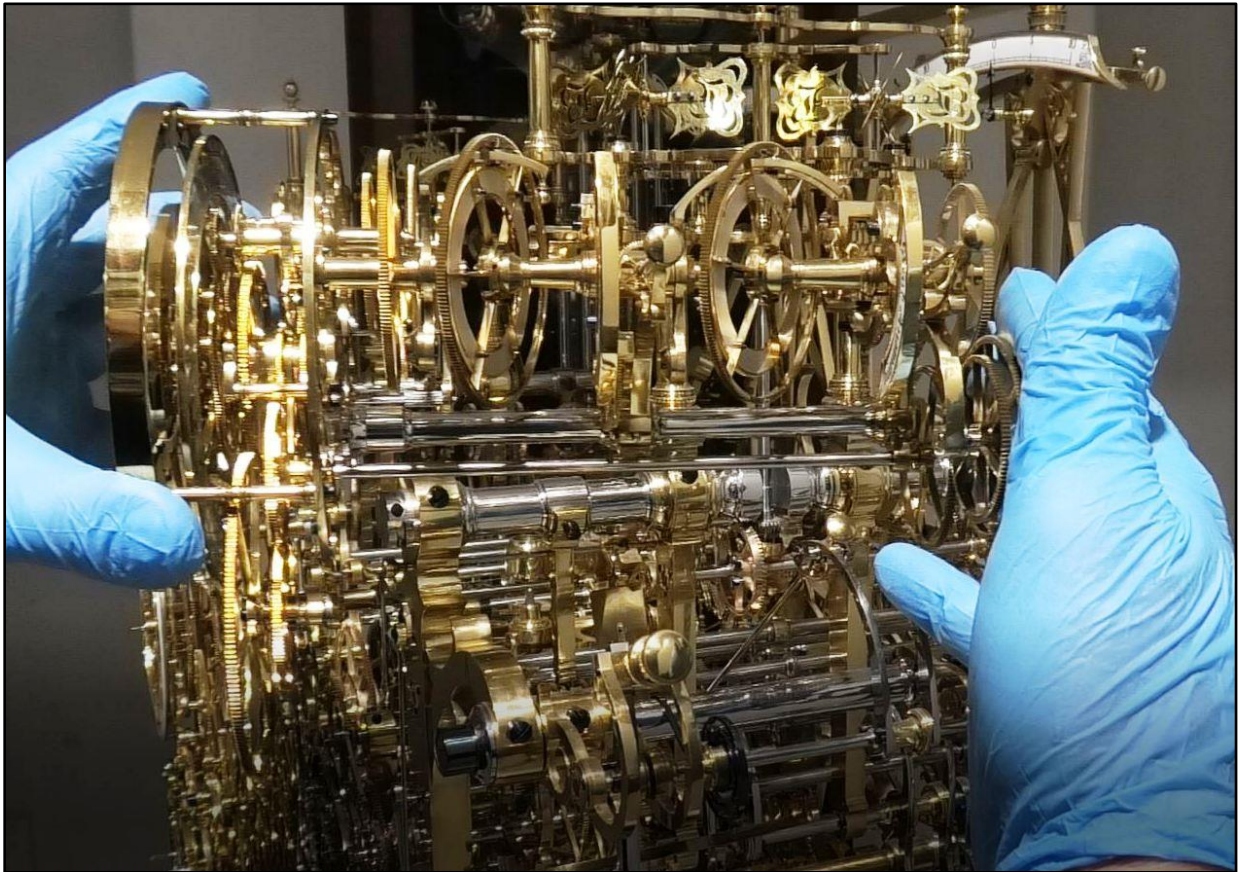

Fig. 2. Sun/Moon module being positioned into place
3. *Carefully* angle the front (dial) of the module slightly towards the clock with the tail a bit outside, Fig. 2. One needs to raise the length of the module slightly over the strike hammer mechanism and then lower just behind the mechanism. At this point the entire module should be able to be parallel to the arbors of the clock and the recess on the rear of the module can be backed onto the bayonet mount on the machine's pillar frame with a bit of small wiggling. The slots on the frame bayonet mount are machined to fit the keys on the lever, so if there is any resistance, move the locking lever a bit either way until they slot into place.